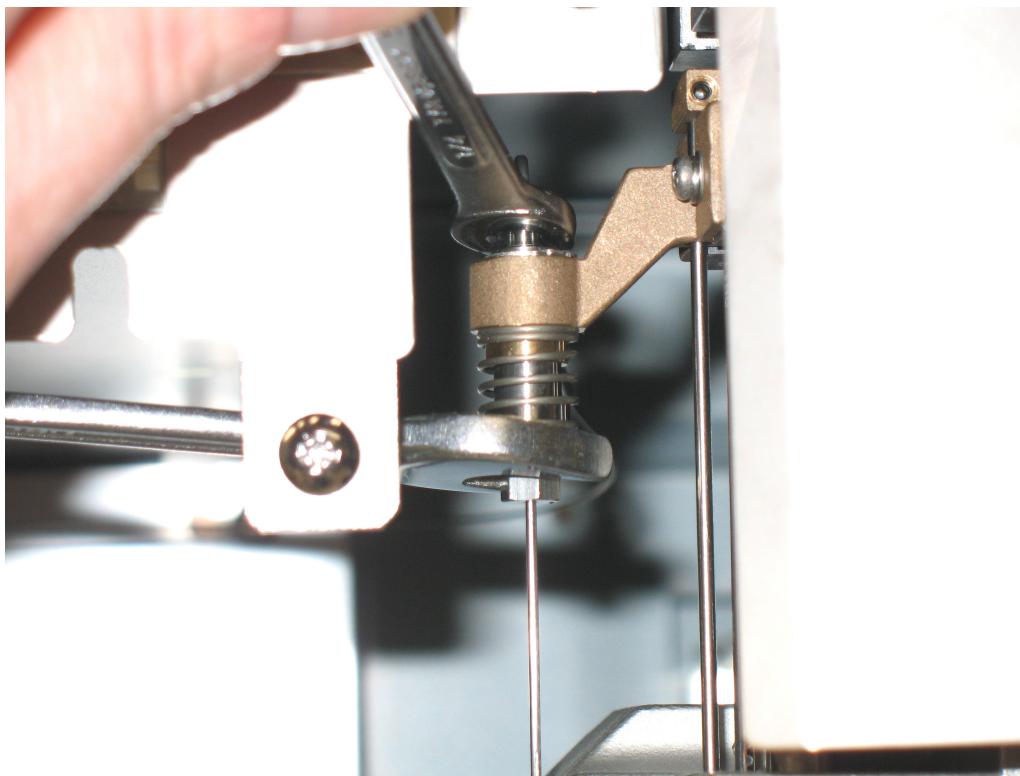

Figure 5: Loosening the Needle top fitting
7. Loosen the needle top fitting (*Fig. 5*) whilst using a 12mm spanner to hold the lower fitting. (Not the needle itself). Once the top fitting is loose, remove the stainless steel plumbing from the assembly.